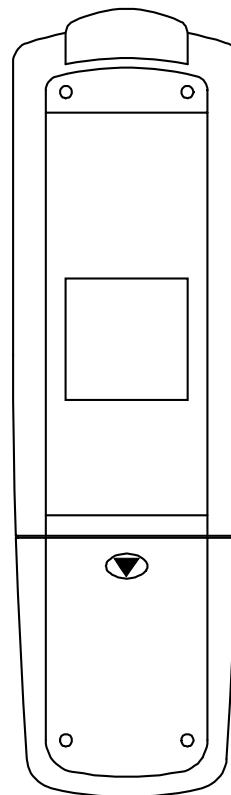

Figure2. Remote Control transmitter case (rear) showing battery compartment
1. Remove the battery compartment cover from the Remote Control case (rear) by sliding the tab away from the case in the direction of the arrow (see Figure 2).